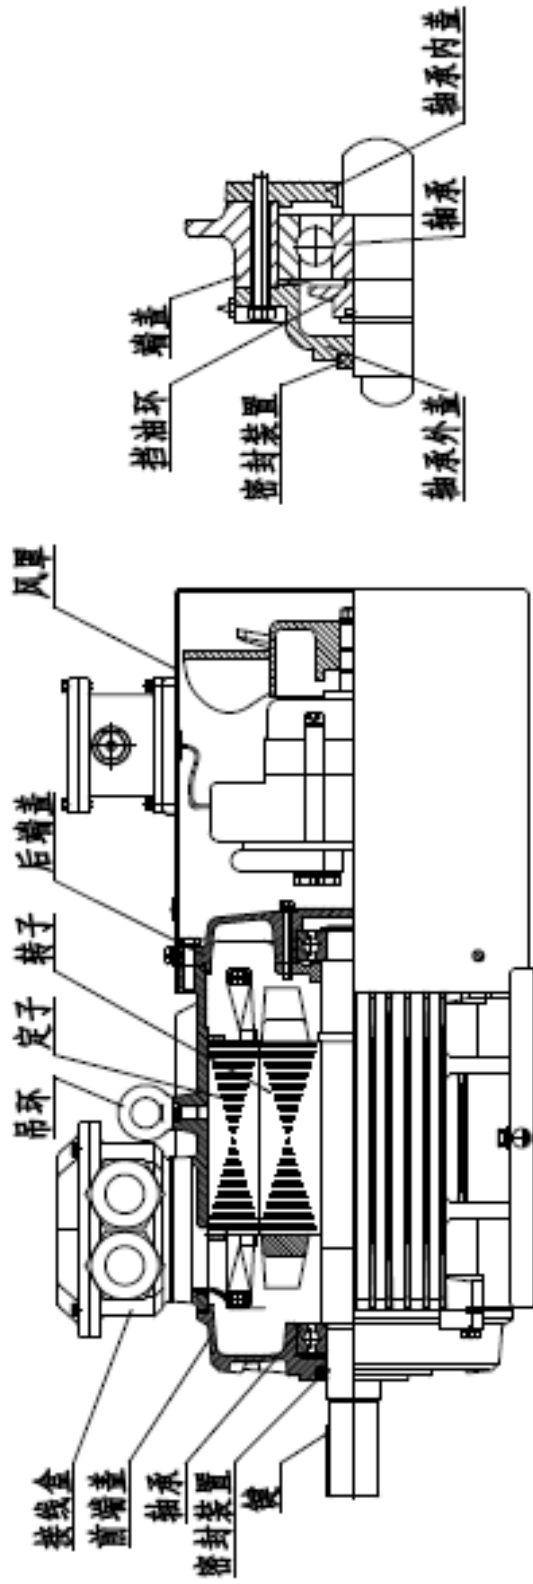

图1 电动机主体结构 (B3)
**Tip: The figures 1、2 behind S、M、L refer to different output power of the motors with the same frame and speed.**
3.4 Subject structure of the motor see figure 1, and the structure of terminal box see figure 2.